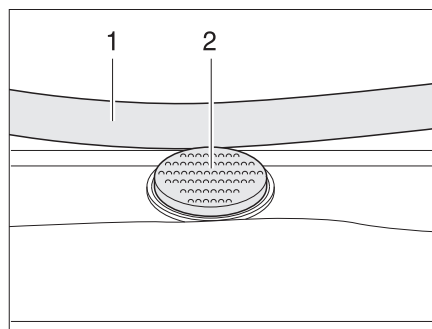

Fig. 86 Safety knob on the Heki skylight
- Press the safety knob (Fig. 86,2) and pull the bar (Fig. 86,1) down with both hands.
- Push the bar upwards with both hands until it is above the safety knob (Fig. 86,2).